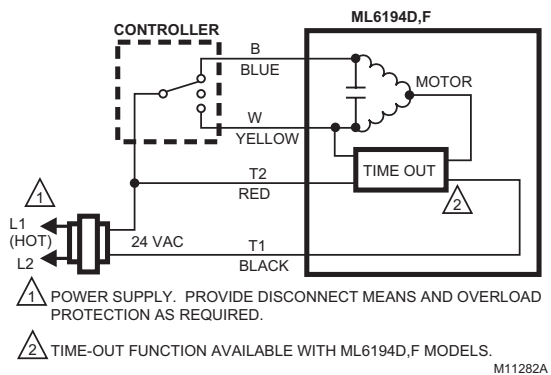

Fig. 7. ML6194D,F typical wiring diagram.
2. If actuator has a time-out feature, apply 24 Vac to black (T1) and red (T2) leads (see Fig. 7 or 9).
3. Apply 24 Vac control signal to blue (B) lead with respect to black (T1) lead. The actuator should drive shaft open (clockwise ↻).
4. Apply 24 Vac control signal to yellow (W) lead with respect to black (T1) lead. The actuator should drive shaft closed (counterclockwise ↻).